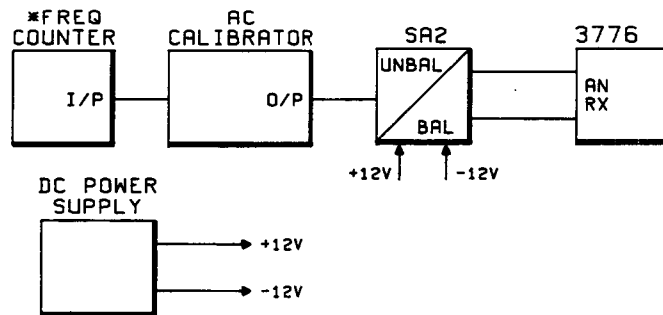

Figure 4-20 Analog Receiver Flatness Test Set-up
1. Connect the equipment as shown in Figure 4-20.